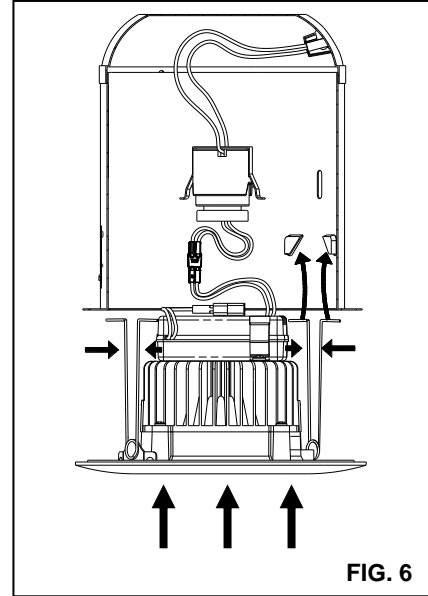

FIG. 6
4. If using TORSION SPRINGS, squeeze both TORSION SPRING arms together and insert into the TORSION SPRING SLOTS (or C-CLIPS) of the CAN. **(FIG. 6)**
2. If using TORSION SPRINGS, squeeze both TORSION SPRING arms together and insert into the TORSION SPRING SLOTS (or C-CLIPS) of the CAN. Tuck all wires into the CAN and carefully push the RETROFIT TRIM into CAN. **(FIG. 6)**